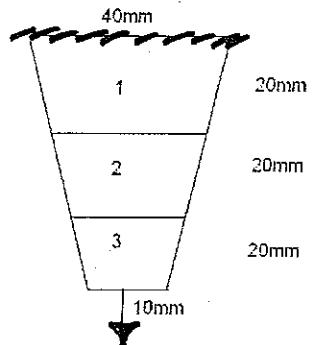

Fig. 4
7. Consider the structure shown in Fig.4. Take $E=200GPa$ & Load =2000N. Assume circular cross section for the structure and determine the average diameter for each section. Top most surface is fixed and the load is acting on the free end. Using potential energy minimization technique, determine the nodal displacements. [10]